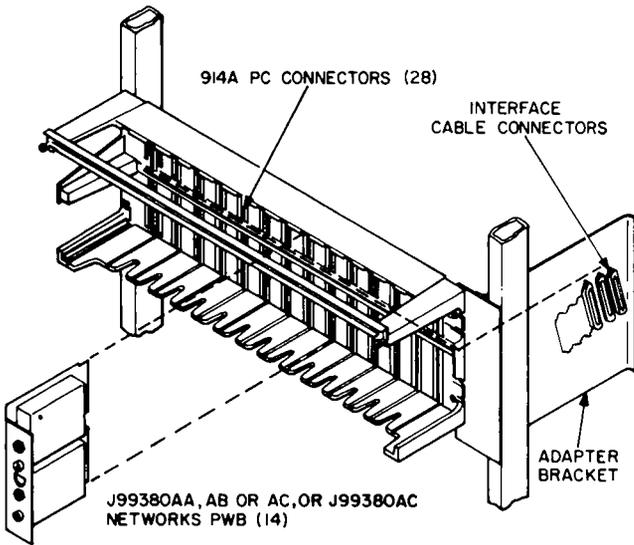
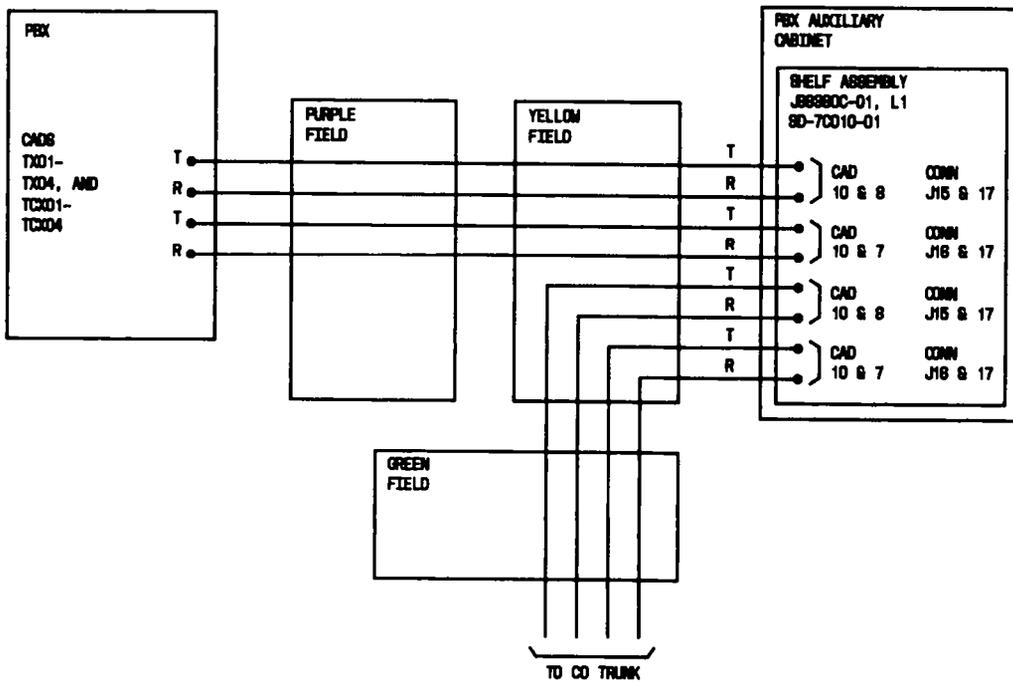

Fig. 26—Shelf Assembly for 837-Type Networks on Printed Circuit (PC) Boards (J99380C)
Fig. 27—KTU-Type Shelf Assembly for Impedance Matching Network (J99380C)
- 6.31 The shelf assembly for 837-type networks on PC boards is shown on Fig. 26. Interconnection information for the KTU-type shelf assembly for terminal balancing is shown in Fig. 27.